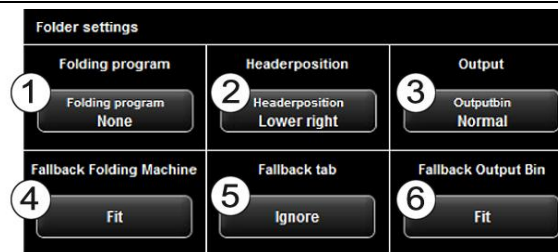

Figure 5.20: Folder settings
2. Folding program: Available only if a ROWE printer was selected in (1). See Figure 5.20.